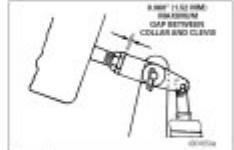

Figure 13-5
8. Measure the gap between the sleeve and the collar on a "Quick Connect" sleeve. Replace the sleeve if the gap exceeds 0.030 inch (0.76 mm). Figure 13-5.